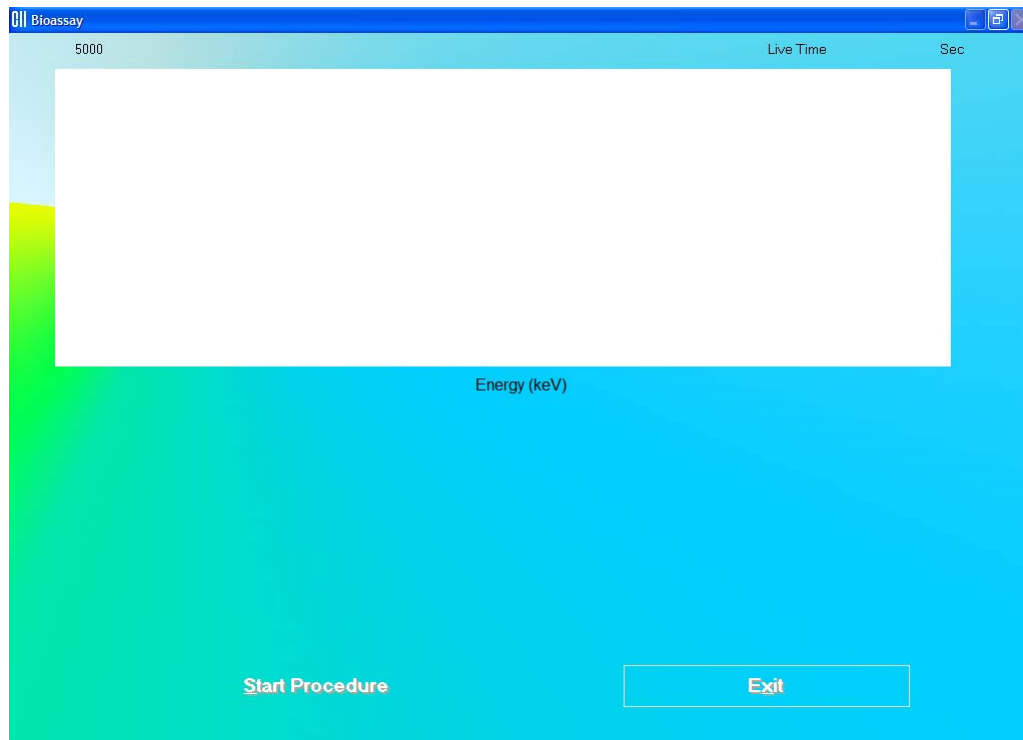
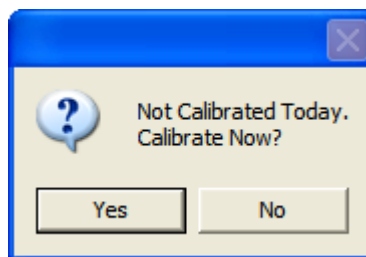

Figure 8-19
Figure 8-20
2. To begin the measurements, click the  button. The Main Bioassay Measurement screen appears as shown in Figure 8-19.
Note: If calibration has not been performed, you will be prompted with the screen as shown in Figure 8-20. After the calibration is complete, the program will return to the Schilling Test measurement screen shown in Figure 8-19.
Click the  button or press the Y key to exit the measurement cycle. The Main Bioassay Measurement screen appears as shown in Figure 8-19. To restart the measurement for the selected Staff Member, click the  button or press *Alt+S*.